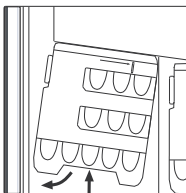

Fig.1
- * As shown in Figure 1, hold and remove the ice cube box from the door lining.